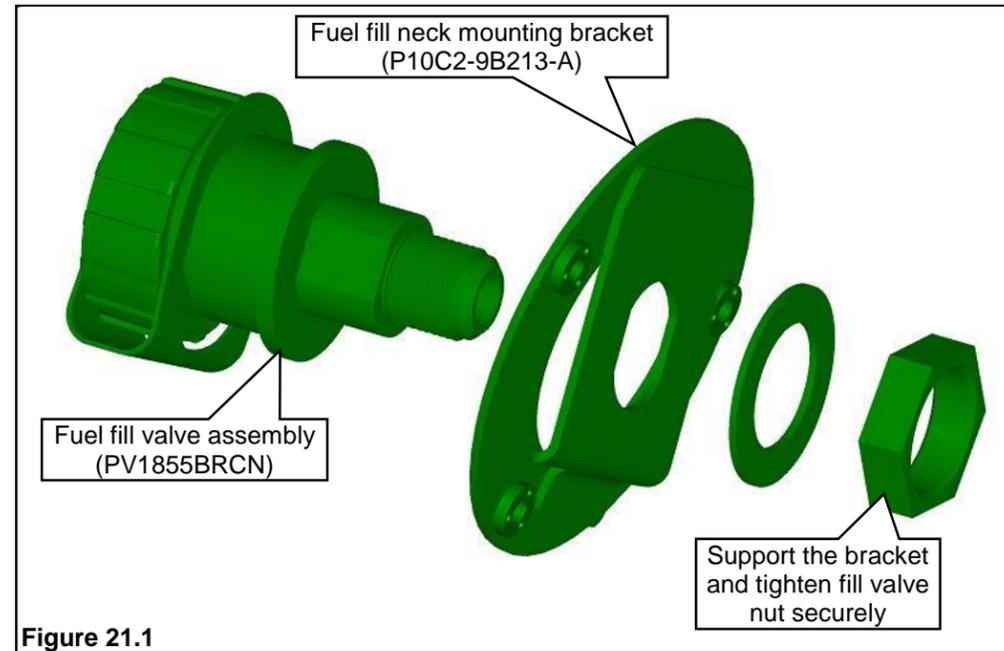

Figure 21.1
1. Remove nut and washer from fuel fill valve and assemble valve to fuel fill bracket. Support fill valve and bracket assembly and tighten nut securely. **Figure 21.1**. These parts are in hardware kit P11GD-FILLKIT-A and P12EB-FILLKIT-A